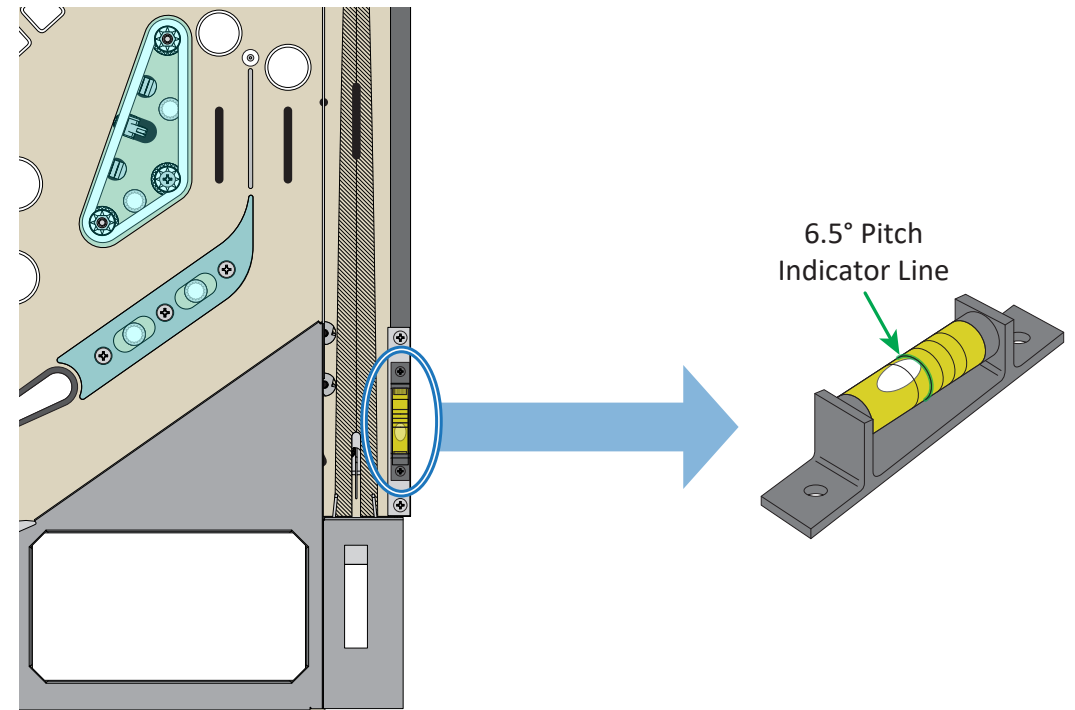

Figure 1-10. Playfield pitch bubble level.
12) A bubble level (figure 1-10) is attached to the playfield's right woodrail, next to the ball shooter lane, to indicate the optimal pitch of the playfield (front-to-back) for game play. Adjust the levelers/nuts on the game's rear legs, equally, until the top of the bubble in the level is just touching the second reference line, as shown in figure 1-10. This will provide a playfield pitch angle of 6.5°.